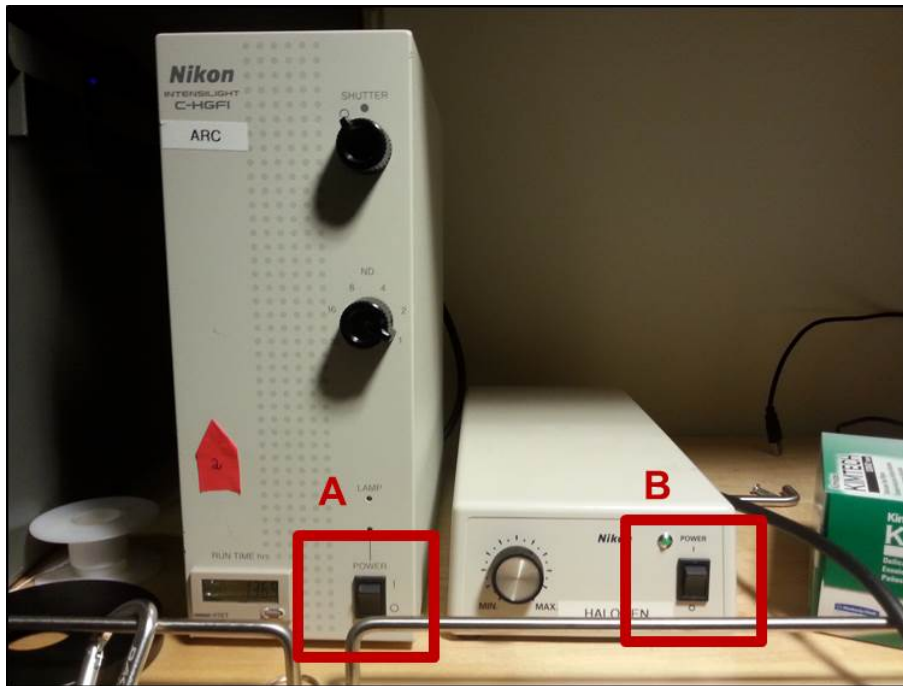

Figure 1: Arc Lamp (left) and Halogen Lamp (right) .
1. Turn on **arc lamp** (Nikon Intensilight on shelf above table: Figure 1). The lamp should be left on for at least 30 minutes at a time and turned off for at least 30 minutes prior to turning on again. This prevents the arc from flickering and wearing out prematurely. Please check the online scheduler to see if a user is signed up directly after you.